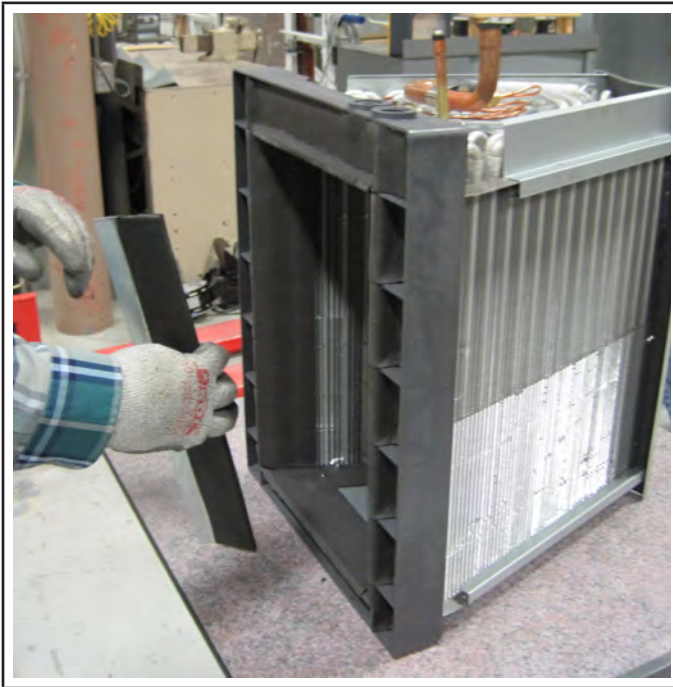

FIGURE 8. Arrange Insulated Drip Shield as Shown for Installation
- 4 - Working from the bottom of the coil, install provided insulated drain pan drip shields (part C, two each). The shields slide into place between the inner coil slab and the drain pan (see figures 8 and 9).